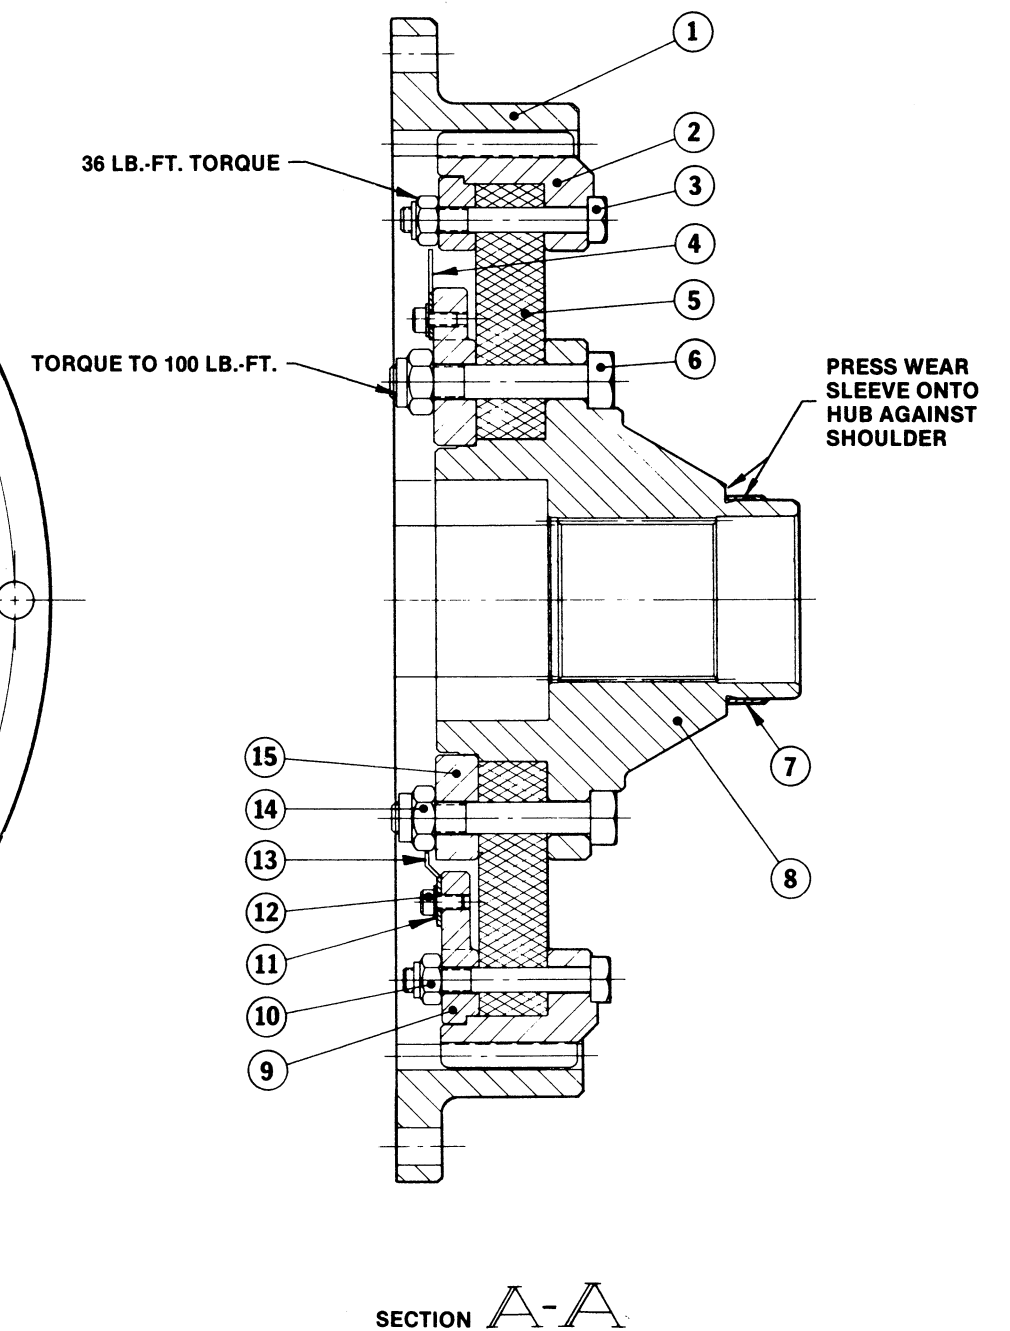

**Figure 10-4. Forward Shaft Collector and Cover Plate Installed.**
6. Secure with eight hex-head screws (40). Torque the screws  $27 \pm 2$  lb. ft.
7. If the pump is not being installed immediately, install gasket (41) and cover plate (42). See Figure 10-4. Secure with hex-head screws (Figure 12-1, 43). Torque the screws  $65 \pm 5$  lb. ft.